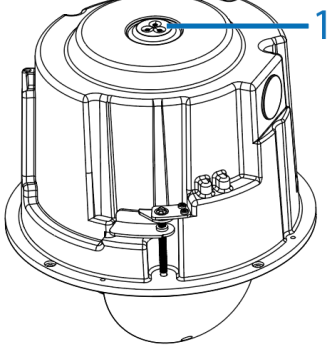

Figure 8
Note: The rubber cable seal grommet (1) (Figure 8) is located on top of the camera housing. To maintain the waterproof seal only pierce cable holes that are required for the installation and only use the existing hole points on the grommet for each cable, do **not** cut additional holes in the grommet.